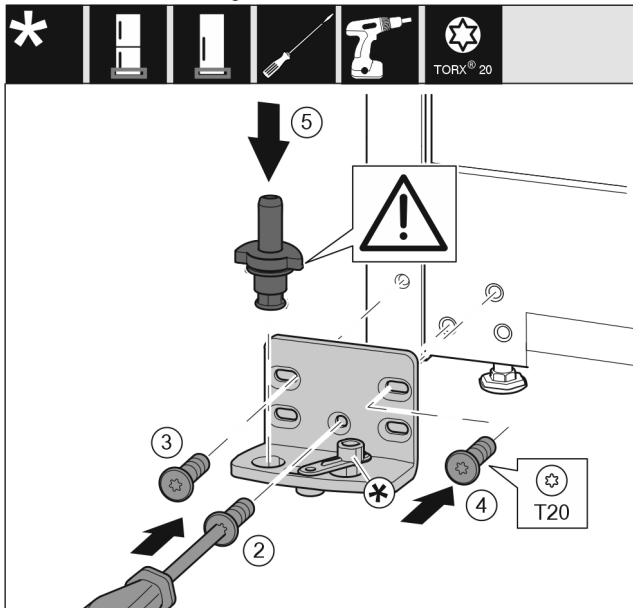

Fig. 36
- Place the bearing bracket on the other side and screw it on with a T20 screwdriver. Start with screw 2 at the bottom in the middle. *Fig. 36 (2)*
- Screw in screws 3 and 4 tightly. *Fig. 36 (3,4)*
- Insert the bearing pin completely. Make sure that the latching lug is pointing to the rear. *Fig. 36 (5)*